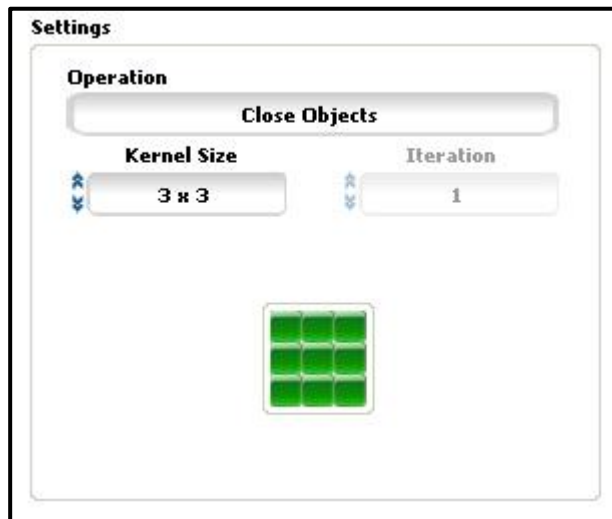

Figure 30. Set the kernel mask, size and number of iterations.
5. Set the appropriate parameters i.e. Close Objects: increase, decrease Kernel size [Figure 30].